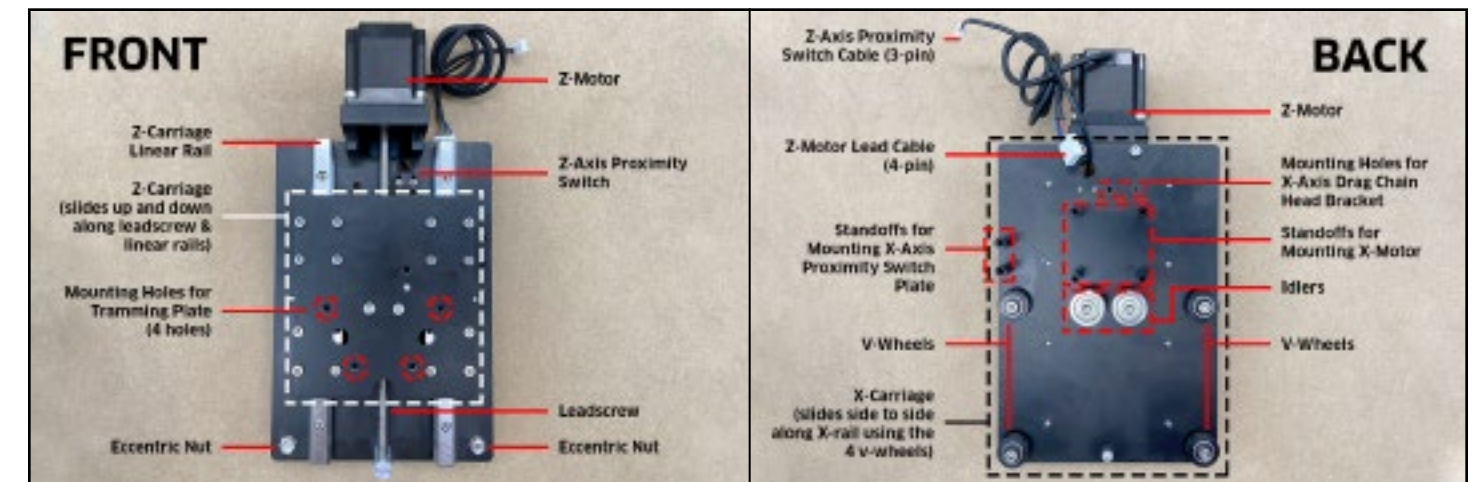
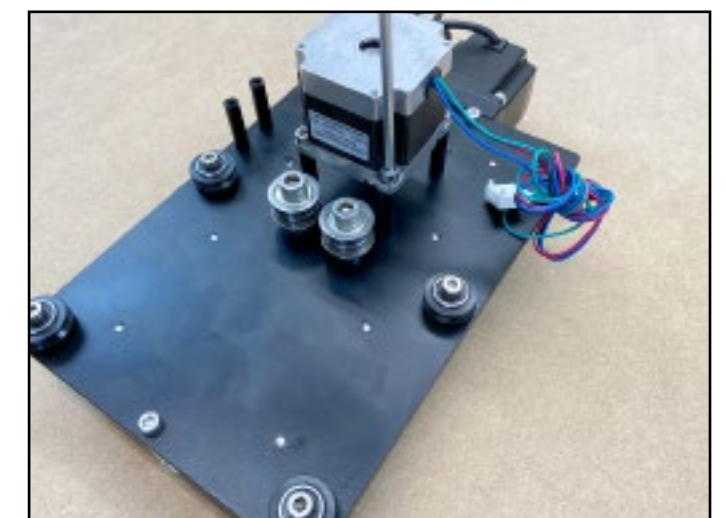

Figure 3-7
Figure 3-8
1. Familiarize yourself with the features and layout of the Z-Plus. See **Figure 3-7**.
2. Place the Z-Plus face down, with the six (6) 30mm standoffs pointing up.
3. Set the X-motor onto the four (4) evenly-spaced standoffs in the center of the Z-Plus, with the Carbide 3D label facing down (toward the idlers). See **Figure 3-8**.
4. Use the 4mm hex key and four (4) M5x10mm socket head cap screws to secure the X-motor to the Z-Plus.